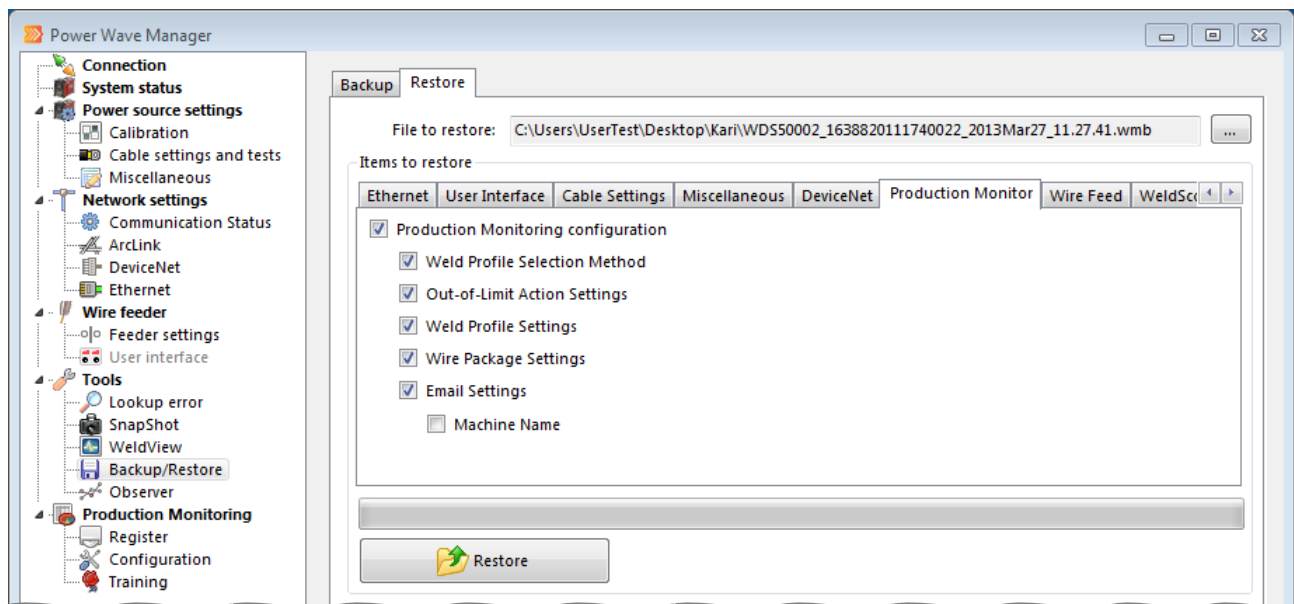

Figure 9.7 Restoring to a Backup File
4. Navigate to and select the backup file you want to load into this power source.	The file extension for a backup file is WMB (Figure 9.7).